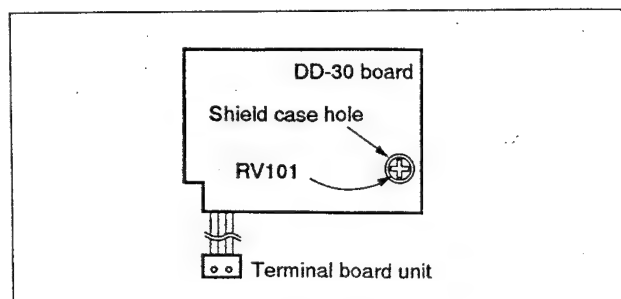

Fig. 6-6.
- 5) Set the LCD counter indication on the adjustment remote controller to the switching position between "-1:01:46" and "-1:01:47" using RV101 on the DD-30 board. (Refer to Fig. 6-6.)